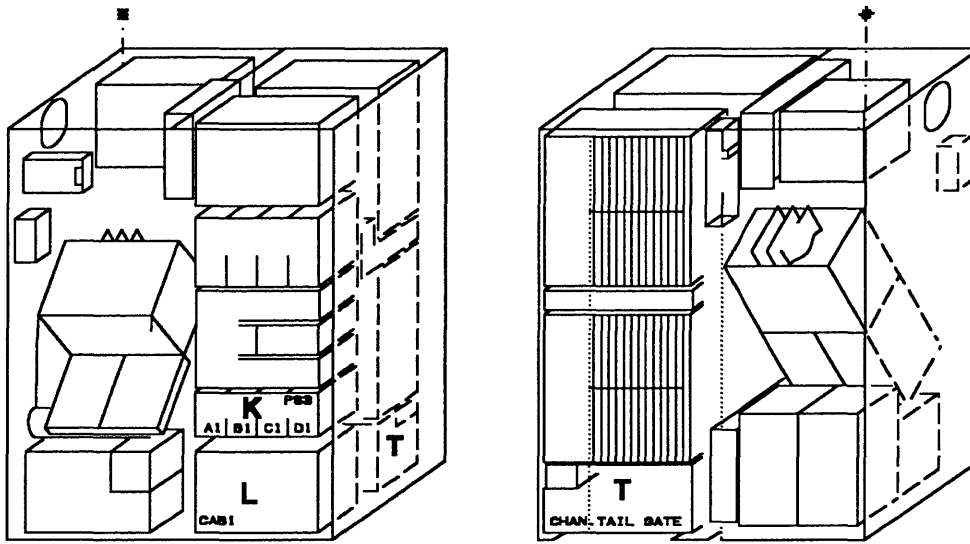
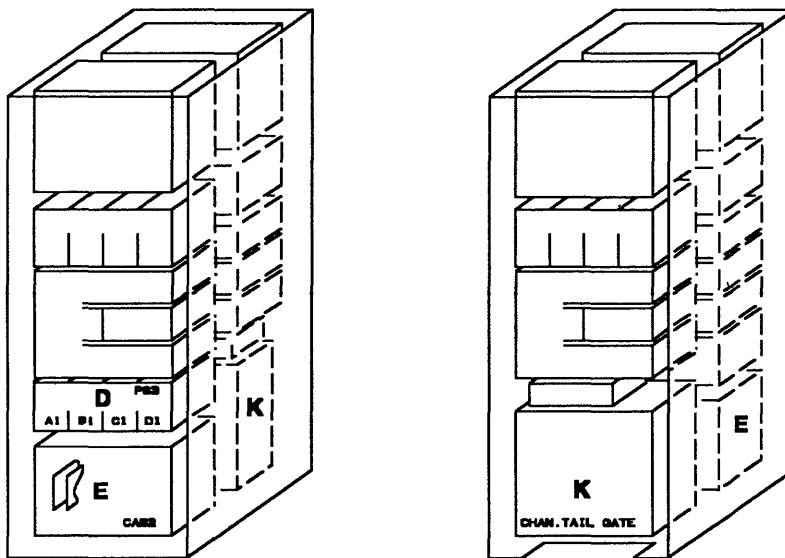
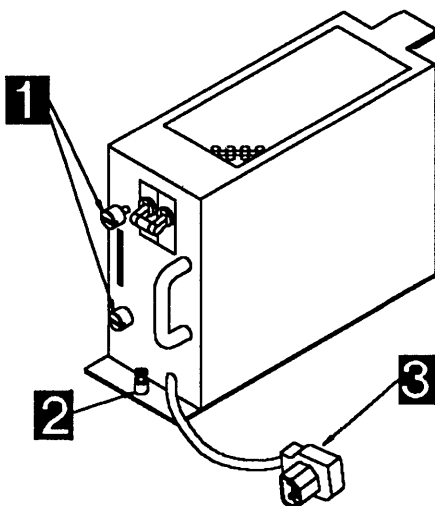

Figure 5-125. Channel Board, Tail Gate and Channel Power in Basic Frame 01
Figure 5-126. Channel Board, Tail Gate and Channel Power in Frame 02
Figure 5-128. Channel Board Power Supply
8. Using Figure 5-125 on page 5-121 or Figure 5-126 on page 5-121 locate Tail Gate 01T-A1 containing the channels 1 to 8, or Tail Gate 02K-A1 containing the channels 9 to 16.
4. Locate using Figure 5-125 on page 5-121 channel board 01L-A1 containing channels 1 to 8, or using Figure 5-126 on page 5-121 the
5. For the channel board you are working on, locate the related tail gate using Figure 5-125 on page 5-121 or Figure 5-126 on page 5-121.
9. The power supplies for channel board 01L-A1 are located at 01K. Refer to Figure 5-125 on page 5-121. The power supplies for channel board 02E-A1 are located at 02D. Refer to Figure 5-126 on page 5-121. Using Figure 5-128, remove the power supply(ies) as follows:
Using the Figure 5-128 on page 5-122, re-install the power supply(ies) as follows: